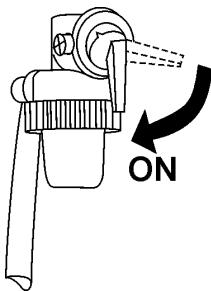

Figure 10. Engine Fuel Valve Lever (ON)
1. Place the engine fuel valve lever (Figure 10) to the **ON** position.